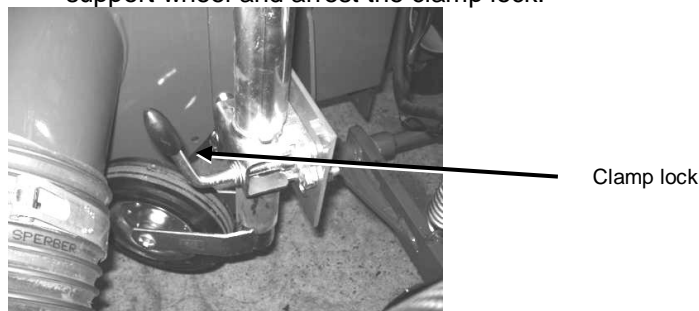

Fig. 53: Support wheel
9. Loosen the clamp lock of the front support wheel on the CLS, lower the support wheel, then arrest the clamp lock (see Fig. 53)